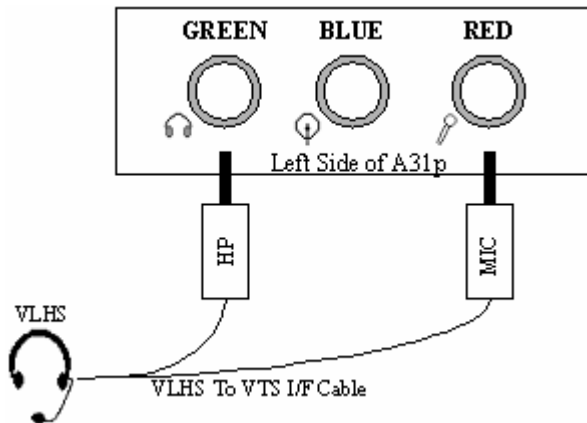

Figure 12-12.- Headset configuration.
- 3.1 Configure VLHS To VTS Interface Cable and VLHS (refer to figure 12-12)
- 3.2 Connect cable's headphone and mic jacks to PGSC (refer to figure 12-12)